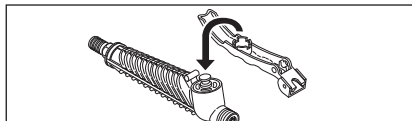

Figure 15. Remove / Replace Plunger Nut
2. Turn the lever over, and engage the tabs on the lever to the plunger nut. Turn counter-clockwise to remove the plunger, nut and spring assembly from the body. See Figure 15.